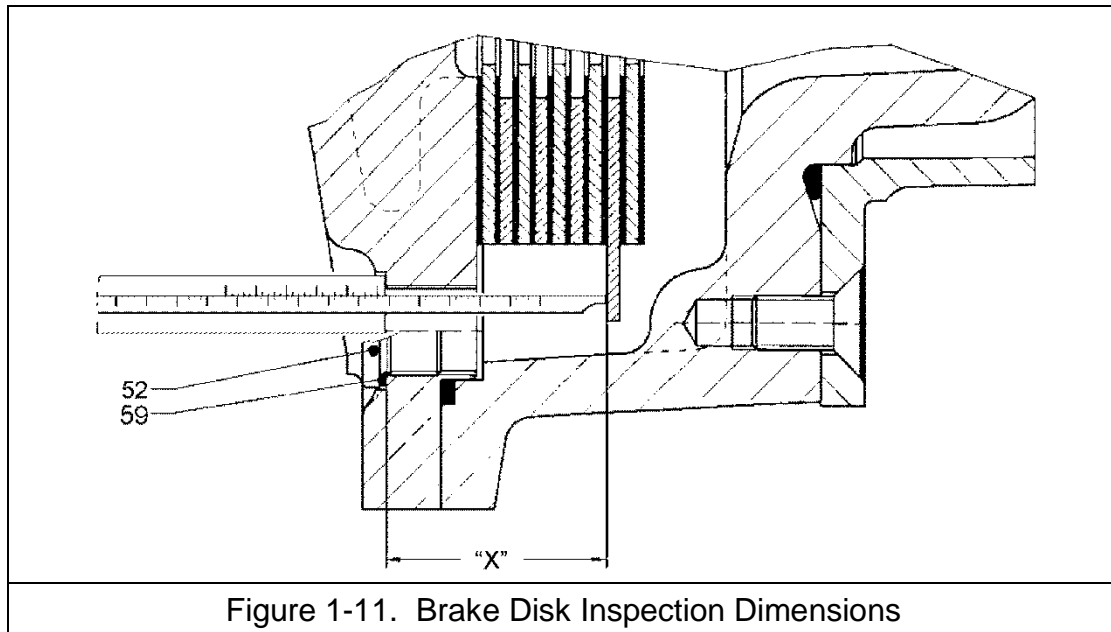

Figure 1-11. Brake Disk Inspection Dimensions
3. Remove the inspection plug and apply the brakes. Use a depth gauge and measure the distance "X" illustrated on Figure 1-5 and Figure 1-11 (from inspection plug seat surface to test nib of the 5th disk).